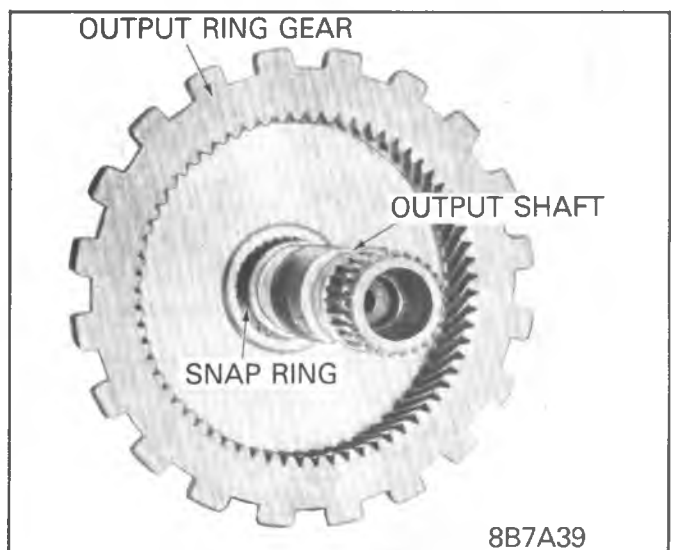

Figure 7A3-116 Output Ring Gear and Shaft Assembly
2. Install reaction carrier to output ring gear needle thrust bearing with lip side face up. See Figure 7A3-117.